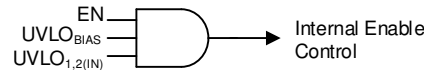

图 8-3. Simplified Turn-On Control
Controlling when a single power supply turns on can be difficult in a power distribution network (PDN) because of the high power levels inherent in a PDN, and the variations between the supplies. 图 8-3 and 表 8-2 show how the LDO turn-on and turn-off times are set by the enable circuit (EN) and undervoltage lockout circuits ($UVLO_{1,2(IN)}$ and $UVLO_{BIAS}$).